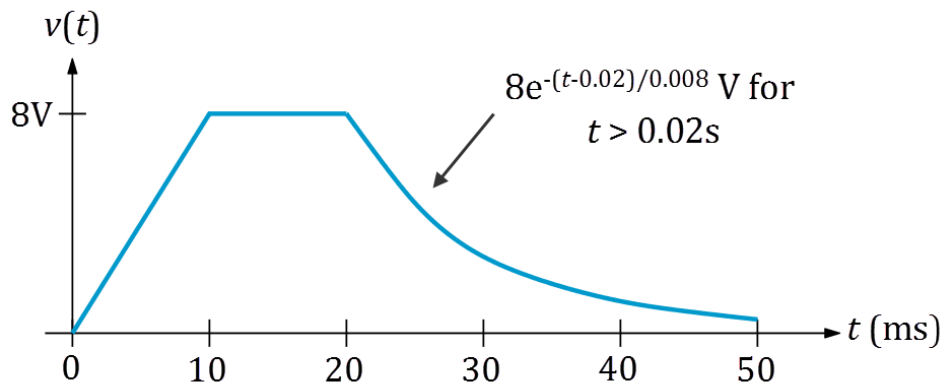

Figure 5.1: Voltage waveform for Problem 5.1
The voltage $v(t)$ across a $10\text{-}\mu\text{F}$ capacitor is given by the waveform shown in Figure 5.1.
- ABM (Analog Behavioral Modeling) voltage source (ABM_VOLTAGE) connected across the capacitor-resistor combination; set up the voltage value to match the waveform of Figure 5.1 on the previous page.
Create the capacitor voltage waveform of Figure 5.1 on page 57 with the NI ELVISmx Arbitrary Waveform Generator; use 50 kS/s as the sampling rate.
- Create three waveform segments with the ARB “Waveform Editor,” two of length 10 ms and the third of length 30 ms. Choose the “Expression” option for each segment and enter expressions that include the time variable t as needed. Set the “X Range From” value of the 30 ms segment to 0.03 seconds and set “Cycles” to 1. You can then enter the exponential function $\exp()$ as shown in Figure 5.1 on page 57. For convenience, create the complete waveform with a unit amplitude and then adjust the “Gain” value of the Arbitrary Waveform Generator to 8.